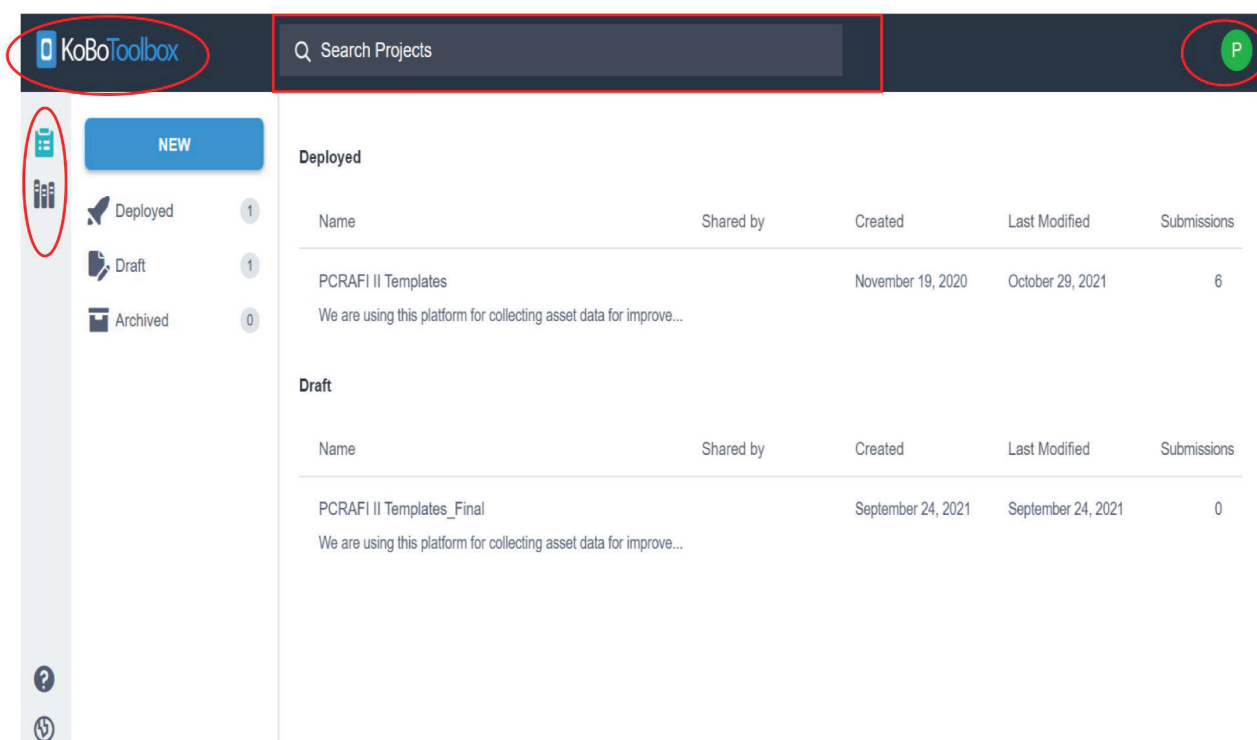

Figure 7: KoBoToolbox PCRAFI II account
2. There are five main links at the top (left-right) of the homepage (Figure 7): Projects, Library, Home Page, Search Tab and User details. These links are permanent, allowing you to easily navigate between different interfaces without necessarily returning to the homepage.